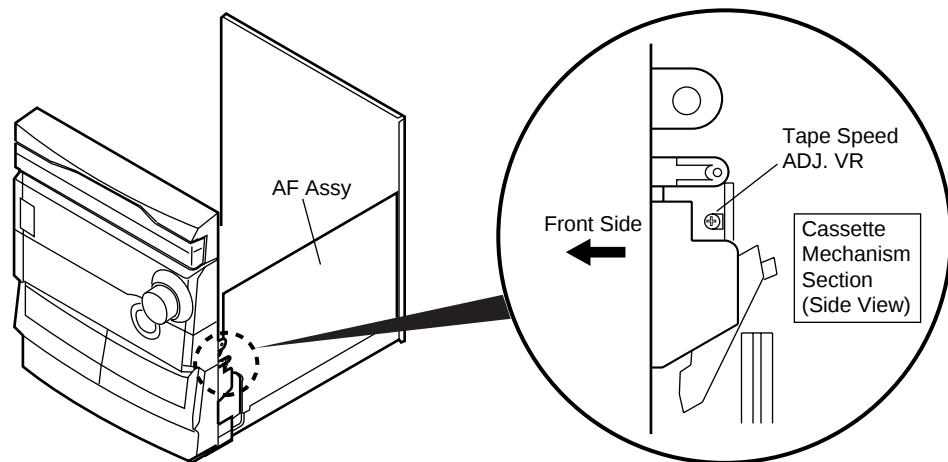
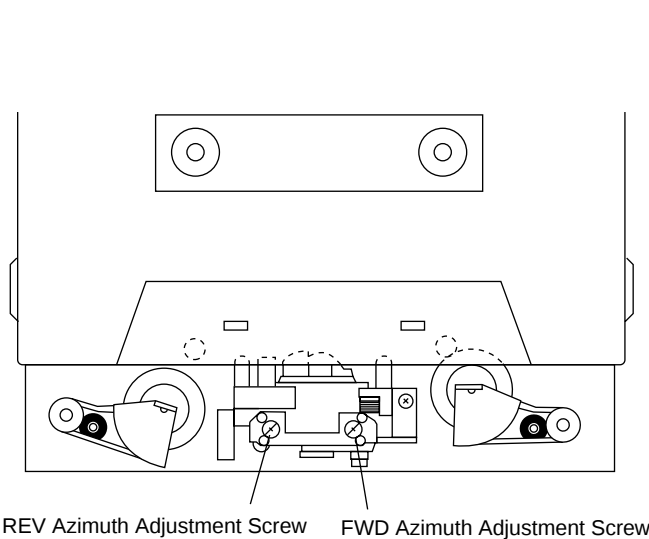
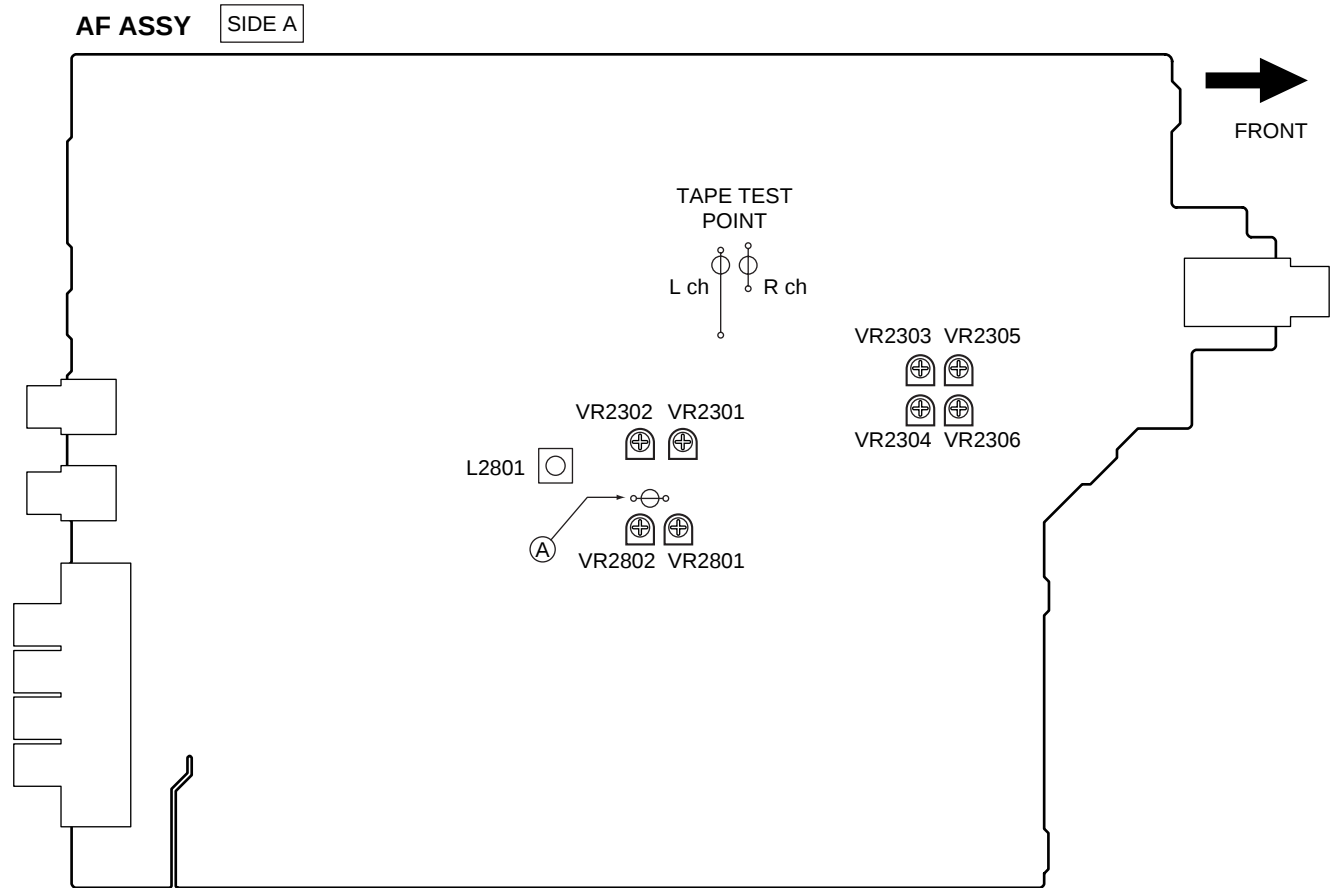

Fig. 5 Tape Speed ADJ. Point
Fig. 7 Head Azimuth Adjustment Screw
Fig. 9 Adjustment and Measurement Points
• Adjustment points and test points are shown in Fig. 5, Fig. 7 and Fig. 9.